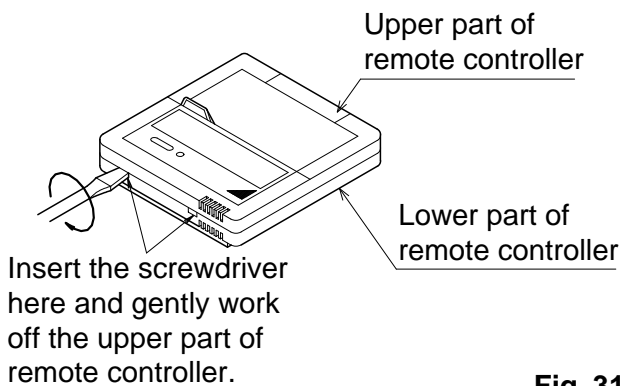

Fig. 31
- (1) Insert a ⊖ screwdriver into the recess between the upper and lower part of remote controller and, working from the 2 positions, pry off the upper part. (The remote controller PC board is attached to the upper part of remote controller.) (Refer to Fig. 31)